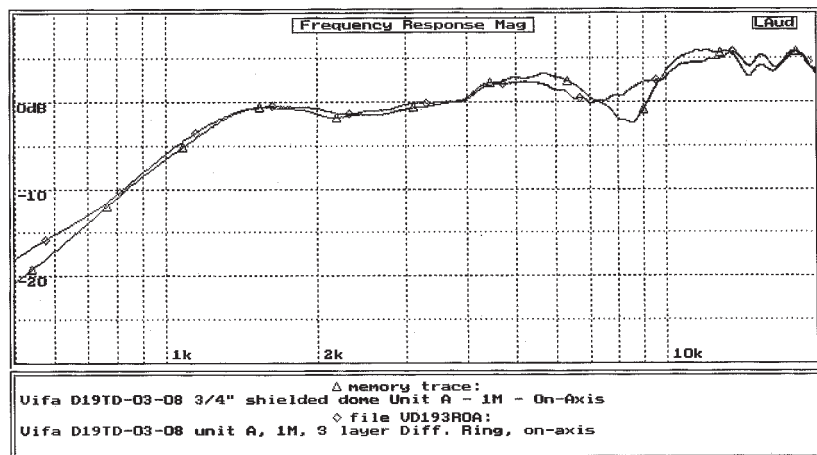

FIGURE 1: Vifa D19TD-03-08 on-axis response with (◆) and without (▲) diffraction ring.
A fix for the surface-mounted tweeter problem is to put a diffraction ring (DR) about the tweeter faceplate. You make this of multiple concentric rings of cardboard or similar material with diameters that increase as you move from the front of the tweeter faceplate to the front panel. Figure 1 shows the measured on-axis response for the surface-mounted Vifa D19TD-03-08 tweeter used in CSA, with and without a diffraction ring, showing the major improvement this simple fix offers.
The woofer-to-tweeter crossover occurs at about 3.8kHz, just a bit below Vifa's minimum recommendation of 4kHz. The coil (L3) and parallel resistor (R2) in the high-pass serve to correct the tweeter's rising high-frequency response, clearly shown in Fig. 1.